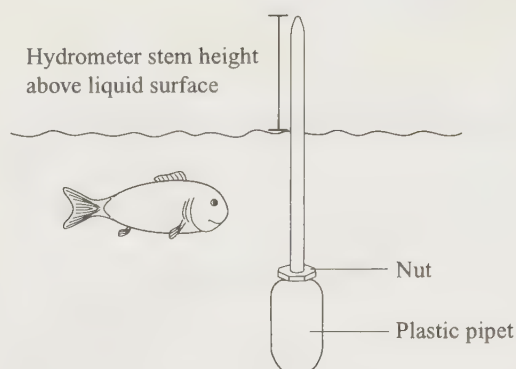

FIGURE 1 A simple hydrometer.
Most soft drinks and fruit juices are sugar solutions. The concentration of sugar in the beverages can be found by using a *hydrometer* (Figure 1), which is a flotation device that measures the density of a liquid. The greater the density of the liquid, the higher the hydrometer floats. For sugar solutions, the greater the sugar concentration, the greater the density and hence the higher the hydrometer floats. You will first prepare a calibration curve showing the hydrometer height versus the concentration of various sugar solutions. You will then use your calibration curve to determine the sugar content of some soft drinks and fruit juices.
2. Slip a nut onto the stem end and allow it to rest on the “shoulders” of the bulb, as shown in Figure 1.